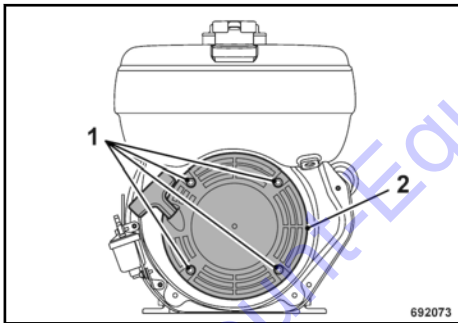

Fig. 65
Unscrew the fastening screws (1) ↗ Fig. 65 and pull the recoil starter (2) from the engine housing.